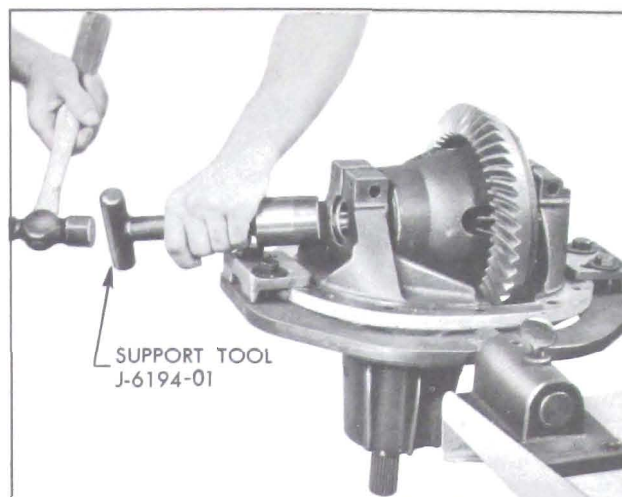

Figure 6-32—Installing Differential Bearing Supports
8. Lubricate support bushings with hypoid gear lubricant. Drive each differential bearing support into its pedestal until seated solidly in the bearing, using Support Tool J-6194-01. See Figure 6-32. Tighten pedestal clamp bolts and nuts to 50 foot pounds.